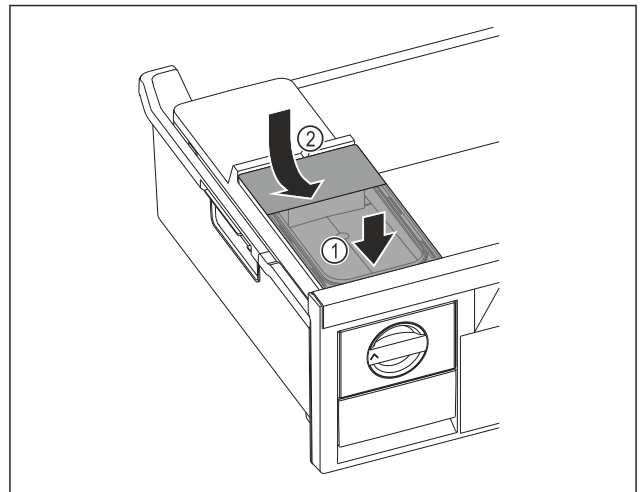

Fig. 92
- ▶ Position the water tank at the front. Fig. 92 (1)
- ▶ Lower the water tank at the rear. Fig. 92 (2)